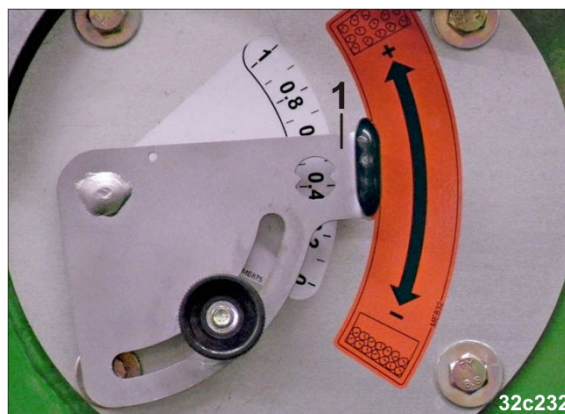

Fig. 264
5. Move the air deflector lever (Fig. 264/1) from stop to stop several times with the fan running.